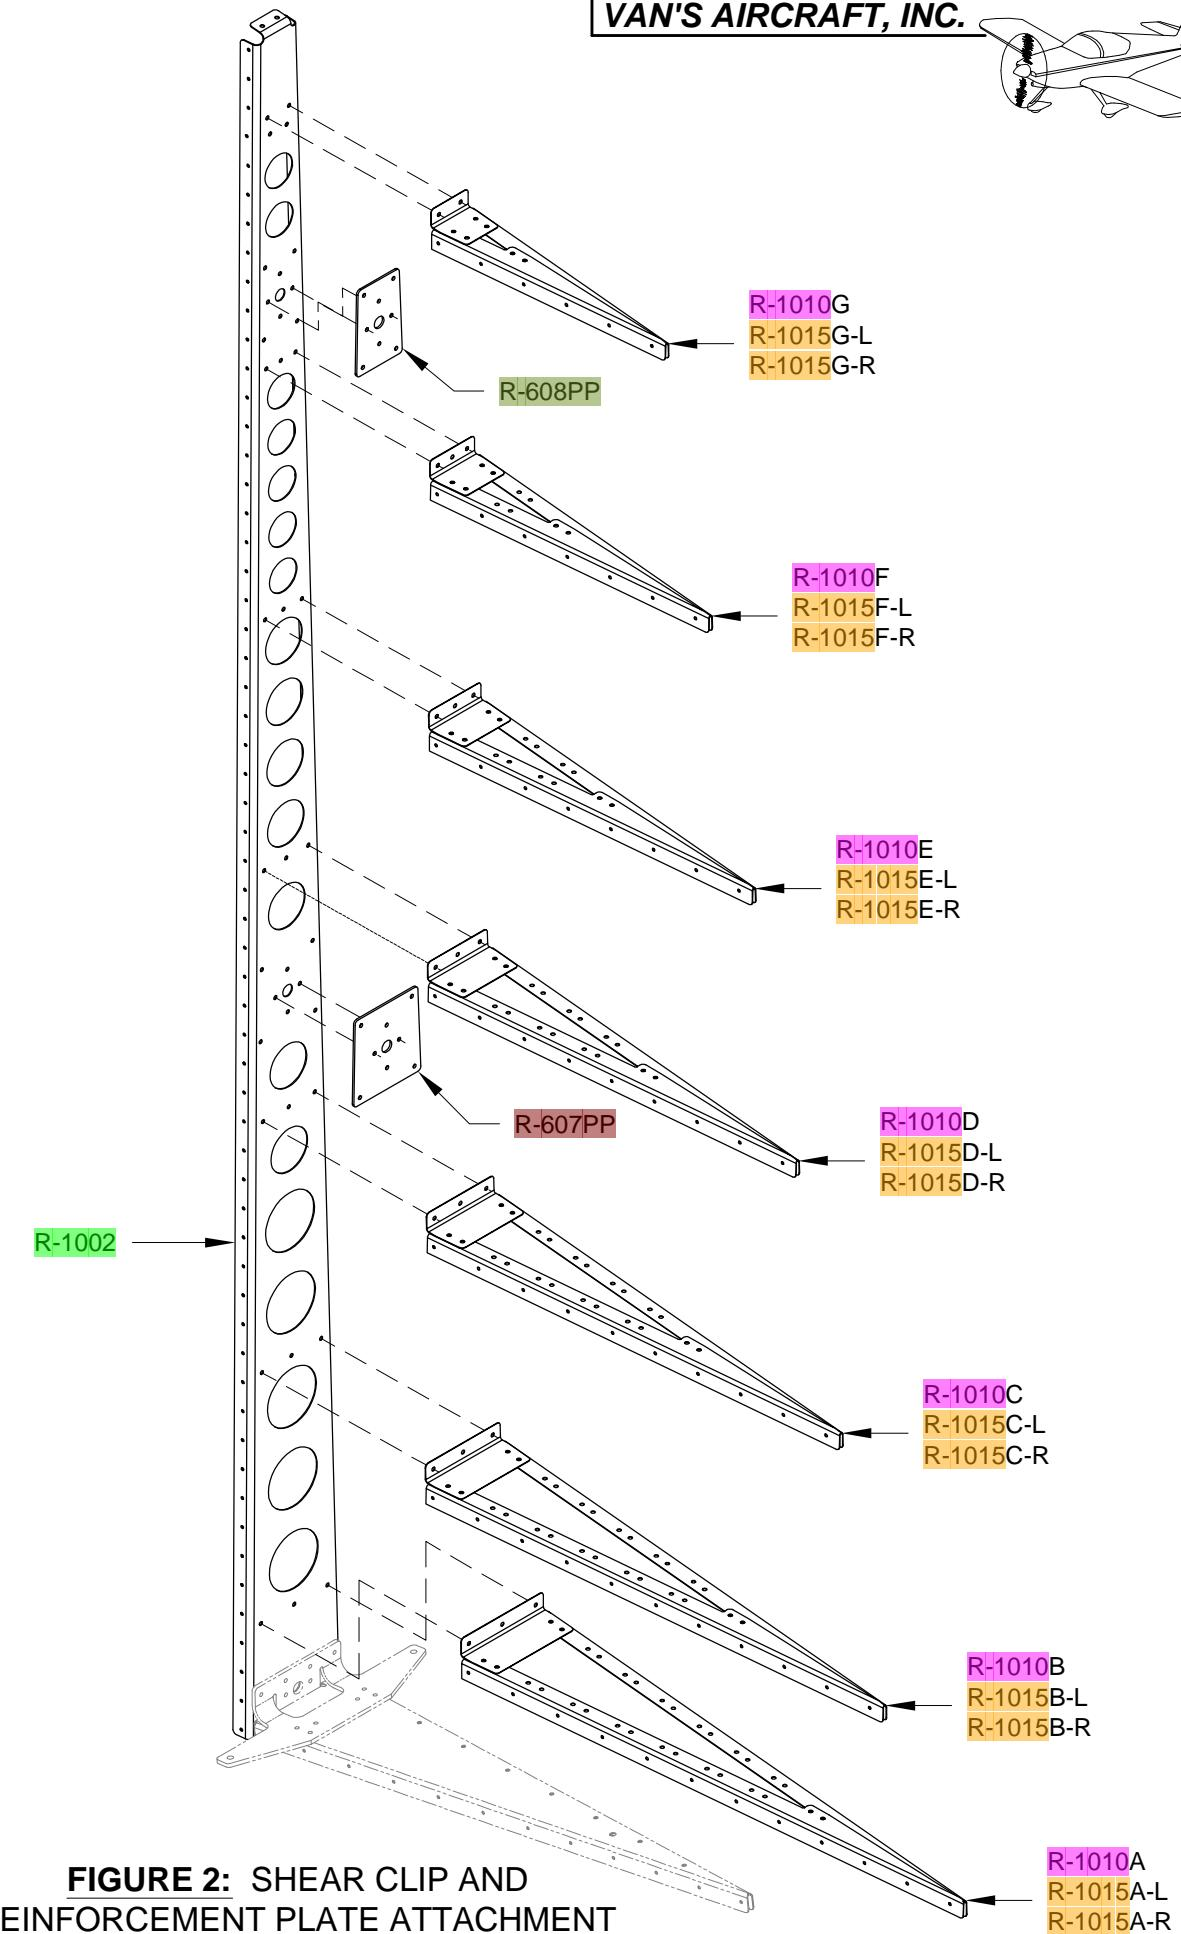

FIGURE 2: SHEAR CLIP AND REINFORCEMENT PLATE ATTACHMENT TO SPAR
Step 3: Deburr the edges of both R-1001 Skins, then cleco one of the skins to the rudder skeleton as shown in Figure 2.